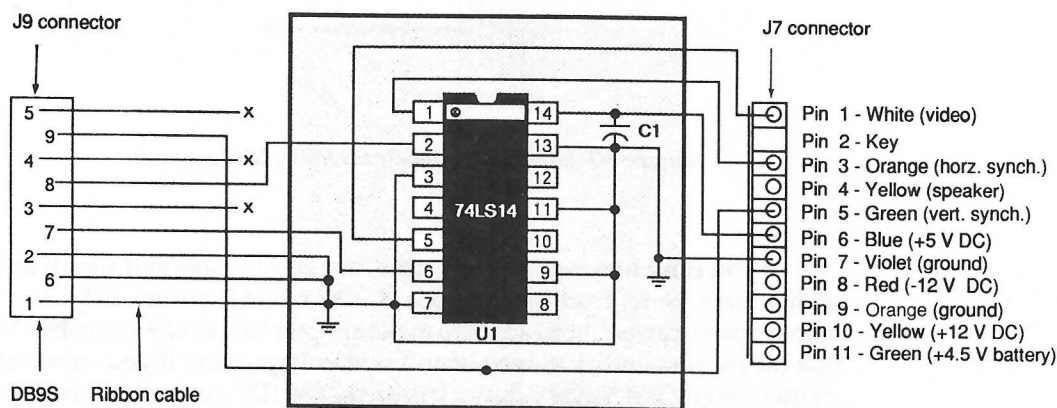

Figure 9-6 Wiring diagram for TTL video adapter.
Using PC-style (TTL) monitors requires a TTL video adapter. The next section shows how to build one from scratch. Table 9-1 provides a parts list for the project. Figure 9-6 provides a wiring diagram.
4. Use needle-nosed pliers to pull each pin from the component side of the board while you heat them from the solder side of the board with a grounded, 15-W soldering iron. Pins 8 and 16 are connected to the inner board layers and consequently require more time to desolder than the others. Some technicians prefer to skip these pins the first time around because it disturbs their rhythm. If you skip them, you'll have to make two passes. In the first pass, desolder pins 1–7 and 9–15 on all 16 of the chips. In the second pass, desolder pins 8 and 16 on all 16 of the chips. For reference, remember that IC pins are numbered counterclockwise as shown in Figure 9-6. The numbering starts from a dot or indentation at one end of the chip.